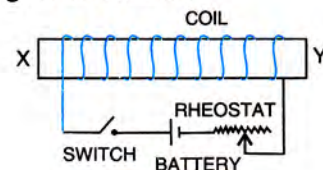

Fig. 10.19
20. The diagram in Fig. 10.19 shows a coil wound around a soft iron bar XY. (a) State the polarity at the ends X and Y as the switch is pressed. (b) Suggest *one* way of increasing the strength of electromagnet so formed.